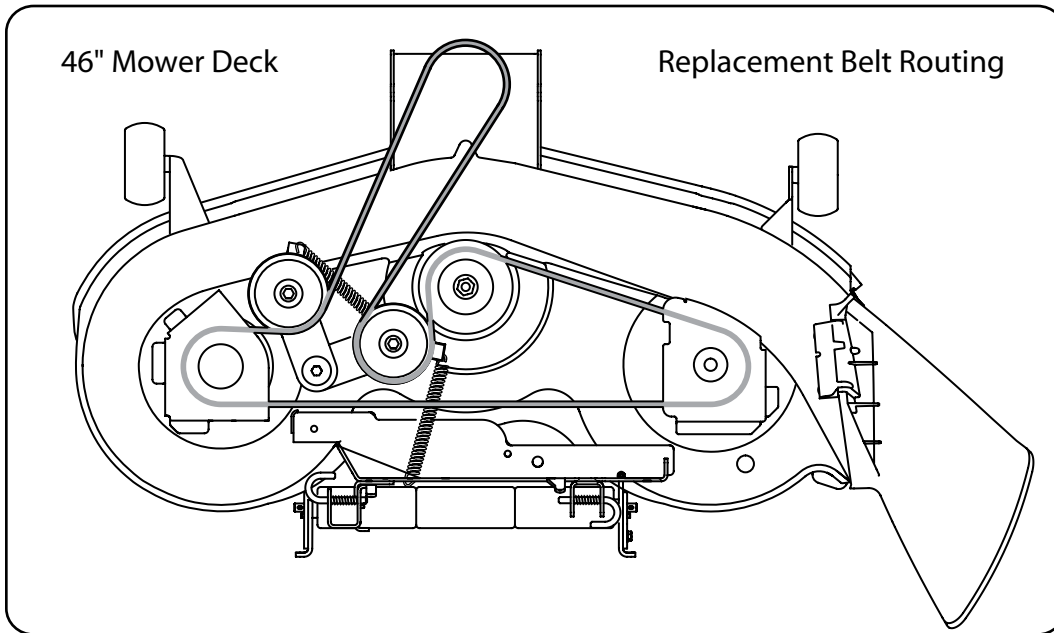

Figure 7-4 Replacement Belt Routing 46" Mower Deck
- **46" Mower Deck ONLY** - Remove the old belt from the deck. Install the new belt around the spindle and idler pulleys as shown in Figure 7-4.